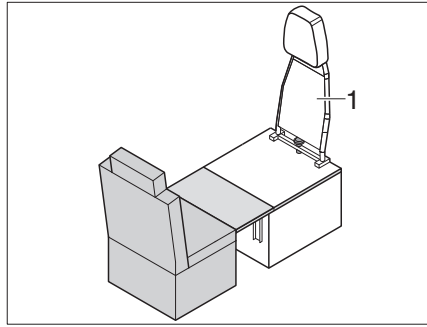

Fig. 227 Driving - sleeping conversion
- Remove the backrest (Fig. 227,1) from the individual seat (see Chapter 7.8.7).